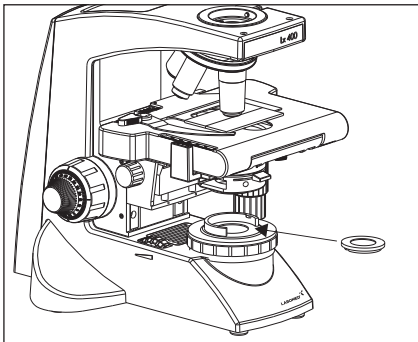

Fig. 11
7. Install the new Blue filter on the Koehler mount, figure 11.